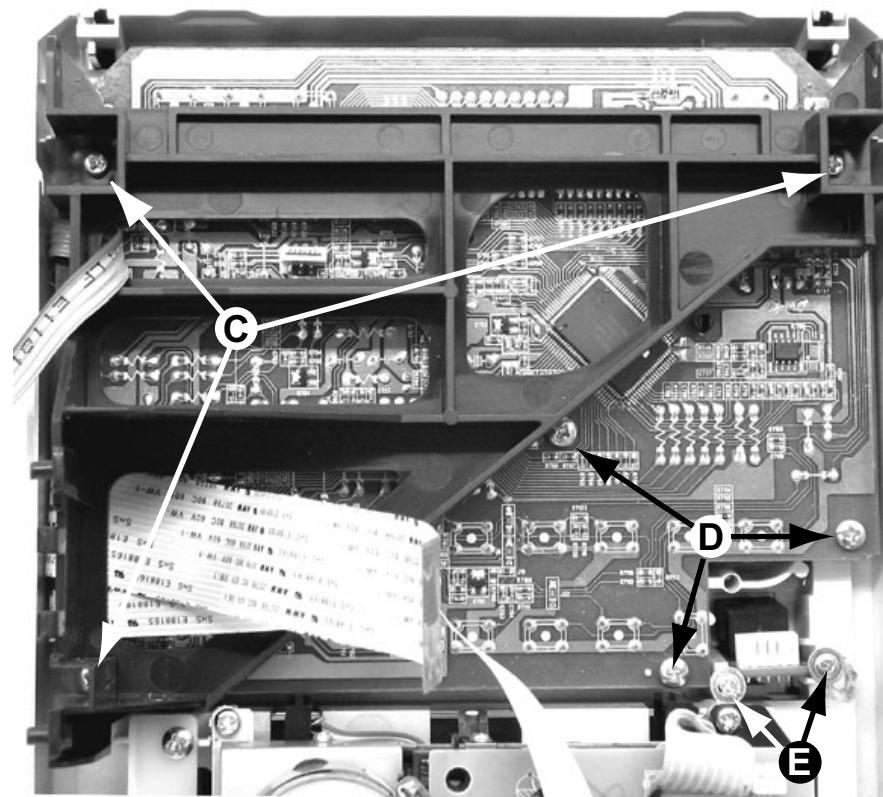

Figure 6
- 2) Loosen 3 screws C (see Figure 6) to remove the Bracket Front Cabinet Display.
- 3) Loosen 3 screws D (see Figure 6) to remove Front Display Board.
- 4) Loosen 2 screws E (see Figure 6) to remove the Headphone Board.